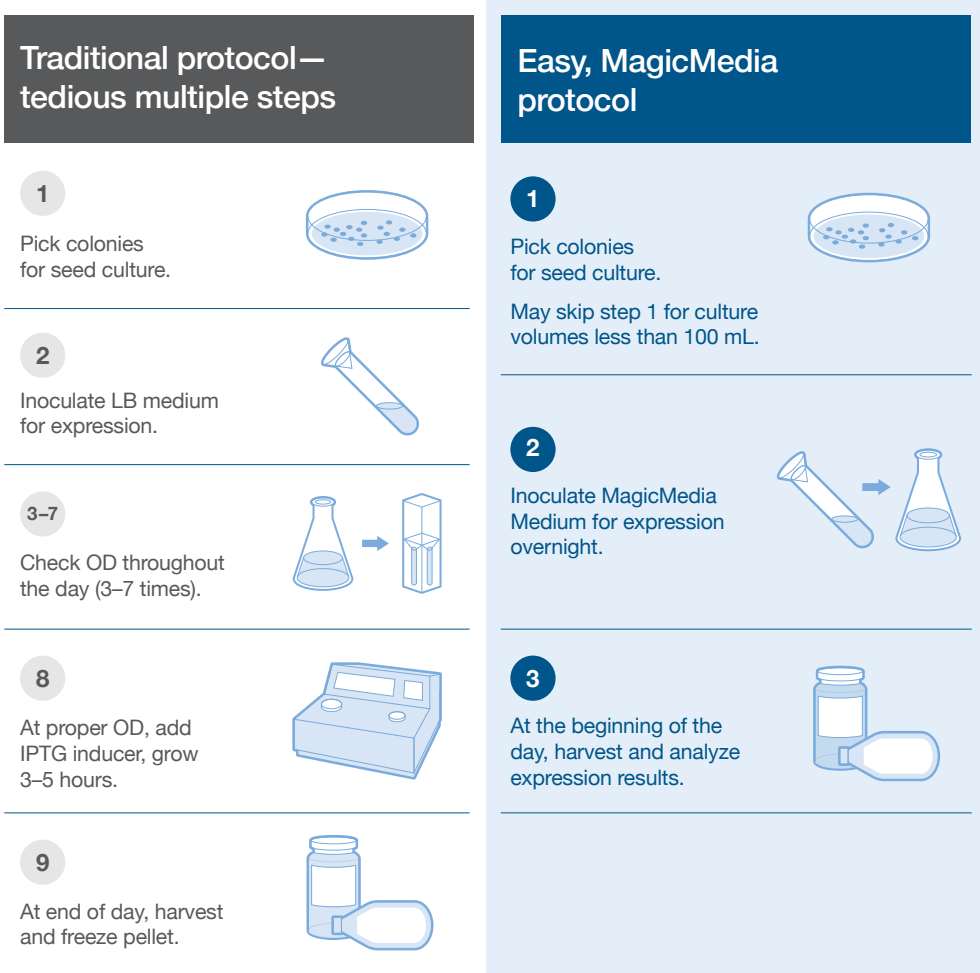

Figure 5.2. Protein expression using the MagicMedia medium compared to using traditional growth medium.
Invitrogen™ MagicMedia™ *E. coli* Expression Medium (Cat. No. K6803) is extremely easy to use and does not require the time-consuming optical density (OD) monitoring and induction steps needed with conventional LB + IPTG methods (Figure 5.2). Simply inoculate prepared MagicMedia medium with the appropriate seed culture, grow the culture overnight, and harvest. In addition, the *E. coli* culture volume required when using the MagicMedia formulation is significantly reduced compared to LB volumes, simplifying handling and scale-up processes. MagicMedia medium is also ideal for efficiently performing simultaneous expression of many clones for high-throughput applications.